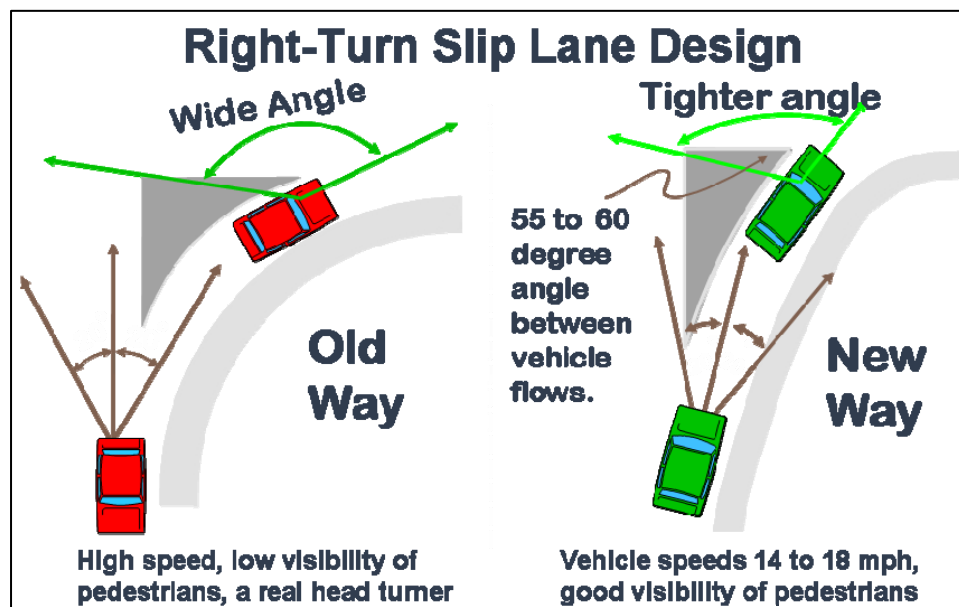

Figure 16 – Australian Right Turn Concept
- Unique geometrics (See Figure 16)